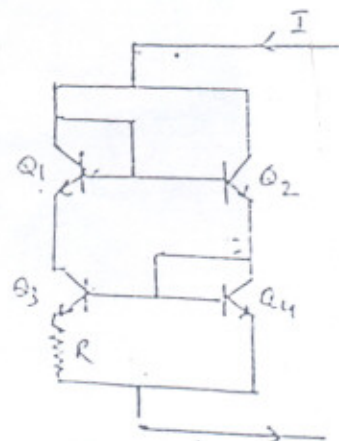

Fig 5. Q. 4 B
3. A) A voltage $V = 20 \sin(100t + \pi/3) + 20 \sin 530t$ is applied to one of the inputs of a phase sensitive demodulator (PSD). The other input to the PSD is a square wave of unity amplitude and frequency 100 rad/s. The output of the PSD is applied to a low pass filter (LPF). Find the magnitude of the output of LPF. (4)
- B) Find the emf generated in an electromagnetic flow meter if the liquid in it is flowing at the rate of $Q = 5$ litres per second. The pipe diameter is 8 cm. and the flux density is 400 T. (3)
- C) List the sources of error in a current transformer? How are they caused? Using a Hall crystal, show how these errors can be reduced. (5)
4. A) Differentiate between Seebeck, Peltier, and Thomson effects. (4)
- B) Fig.5 shows a two-terminal IC temperature transducer with a sensitivity of $1.0 \mu A/Kelvin$. All transistors can be assumed to be identical except that transistor Q_4 has an active area which is 8 times the active area of transistor Q_3 . Find the value of R in the circuit. Assume $k = 1.38 \times 10^{-23}$, $q = 1.6 \times 10^{-19} C$. (6)
- C) A random signal $x(t)$ has a power spectrum $\phi(\omega)$ which has a constant magnitude A up to a frequency ω_c and is zero for frequencies above ω_c . Derive an expression for the auto correlation function. (5)
5. A) Discuss the conditions under which the following two types of converters are preferred in industry -- successive approximation and dual slope converters. (3)
- B) Differentiate between common mode and isolation mode voltages. How would you ensure high isolation between sensor and signal conditioning circuit? (3)
- C) Discuss how shielding reduces capacitive coupled noise. (3)